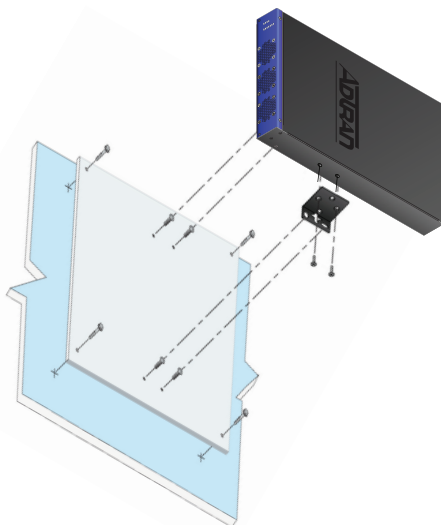

Figure 3. Wall Mounting the NetVanta 1131
2. Decide on a location for the unit. NetVanta 1131 units are mounted with the front panel facing left (see Figure 3). Keep in mind that the unit needs to be mounted at or above eye-level so that the LEDs are visible.
4. Have an assistant hold the unit in position as you install two #6 to #10 (1-inch or greater in length) wood screws through the unit's brackets and into the mounted board (see Figure 3).